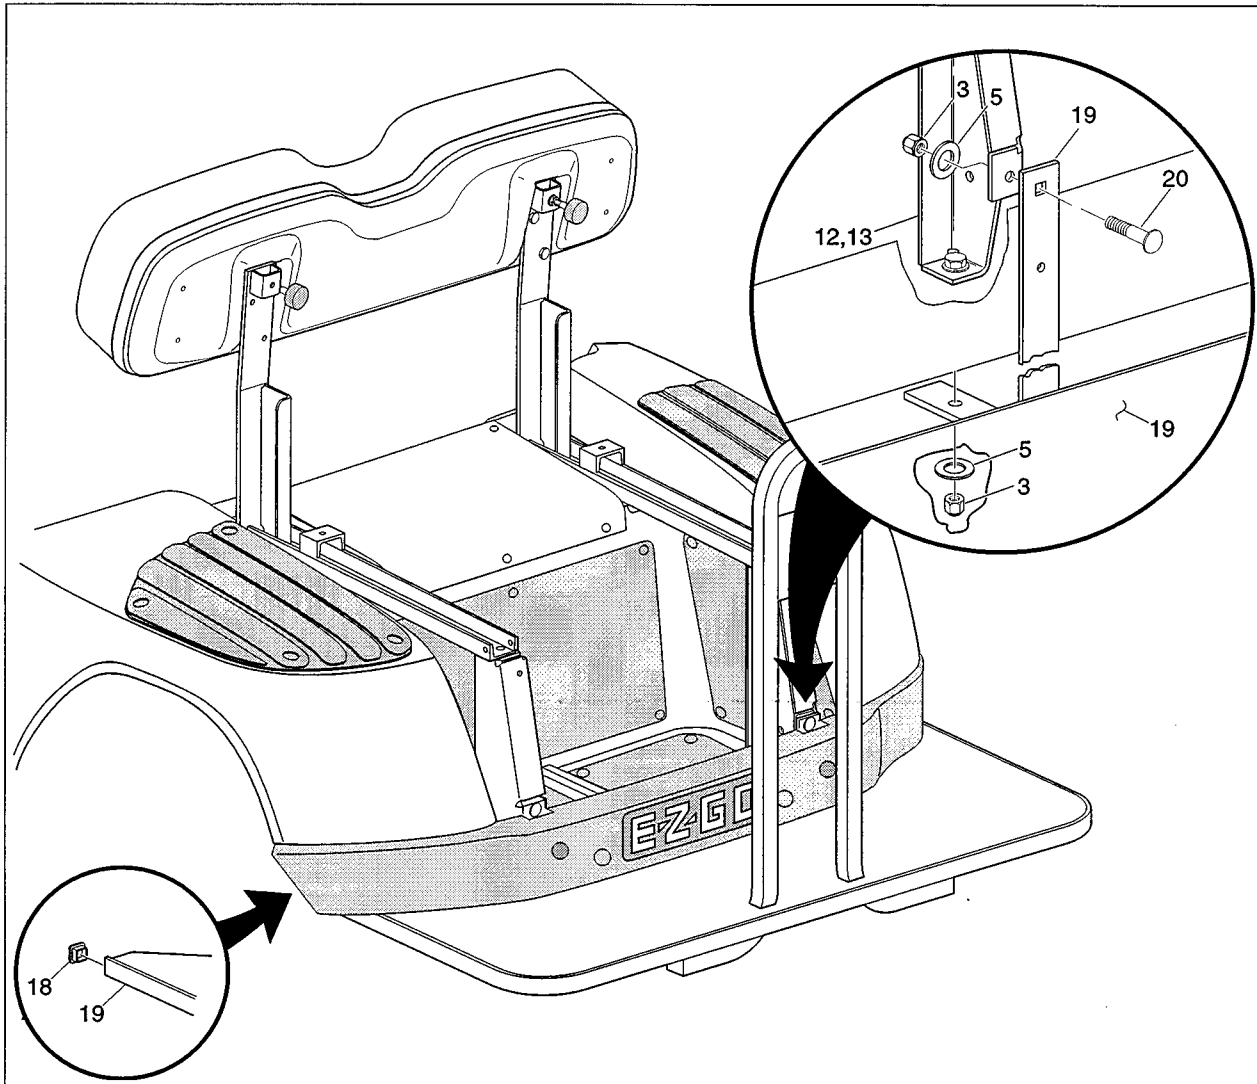

Fig. 5
1. Install the end plugs (item 18) into the tubing ends of the foot rest assembly (item 19).
2. Remove the nut (item 3) and washer (item 5) (previously installed) from the underside of the frame. (See Fig. 5)
3. Place the foot rest (item 19) up against the bottom of bumper aligning the bolts that were previously installed in the bagwell with the holes in the horizontal part of the foot rest bracket. Be sure the vertical part of the foot rest bracket is inserted between the bumper and the vertical frame supports. See Detail in Fig. 5
6. Insert carriage bolt (item 20) through the hole in bracket and vertical support and secure with washer (item 5) and nut (item 3). (See Fig. 5)
7. Tighten the nut (item 3) on the underside of the frame to 21 - 25 ft. lbs. torque. (See Fig. 5)